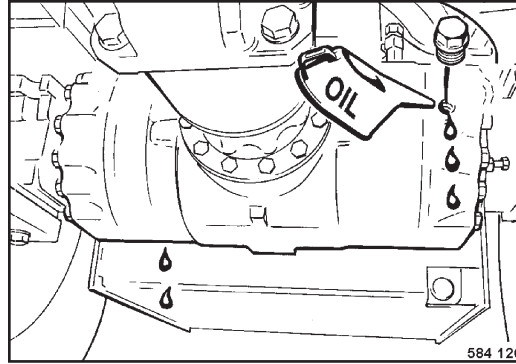

Fig. 130
- Fill in oil through the oil level inspection bores (Fig. 130), until it has reached the bottom edge of the bore.